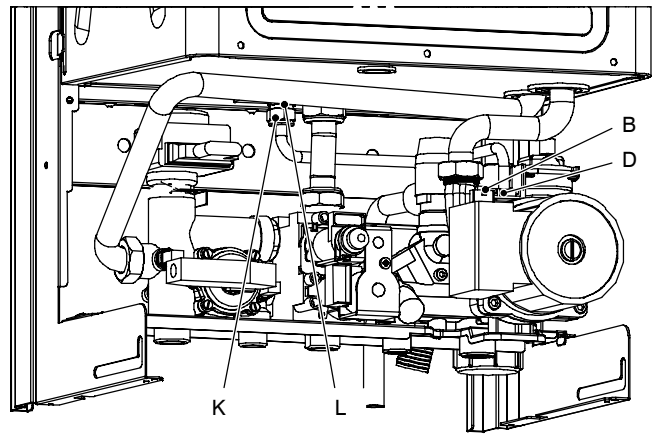

Fig. 57
- 2 Completely unscrew the connection K, the locknut L (Fig. 57) and remove the expansion vessel from the top of the boiler.